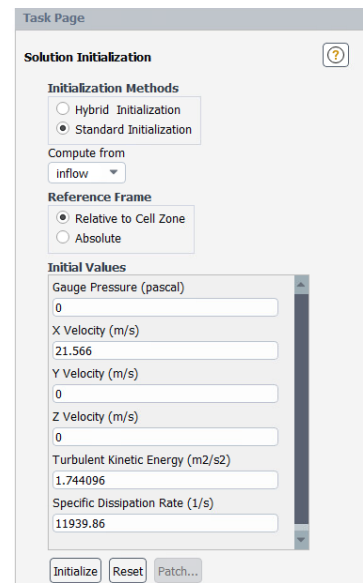

Figure 14. Setting up the initialization.
- 3.3.2. Set the **Initialization Methods** to “Standard Initialization”, as shown in Figure 14.
- 3.3.4. Ensure that the values for the “Gauge Pressure”, “Y Velocity”, and Z Velocity” are set to 0, as shown in Figure 14.